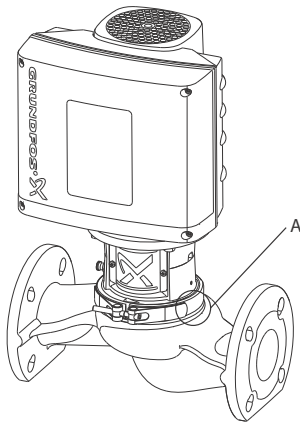

Fig. 8 Clamp (A)
- Pay special attention that the pump head does not fall down when loosening the clamp. See fig. 8.
- Pay special attention to escaping vapor when loosening the clamp. See fig. 8.
1. Loosen the clamp securing the pump head to the casing. See fig. 8.
- Pay special attention to any escaping vapor when loosening the clamp. See fig. 8.